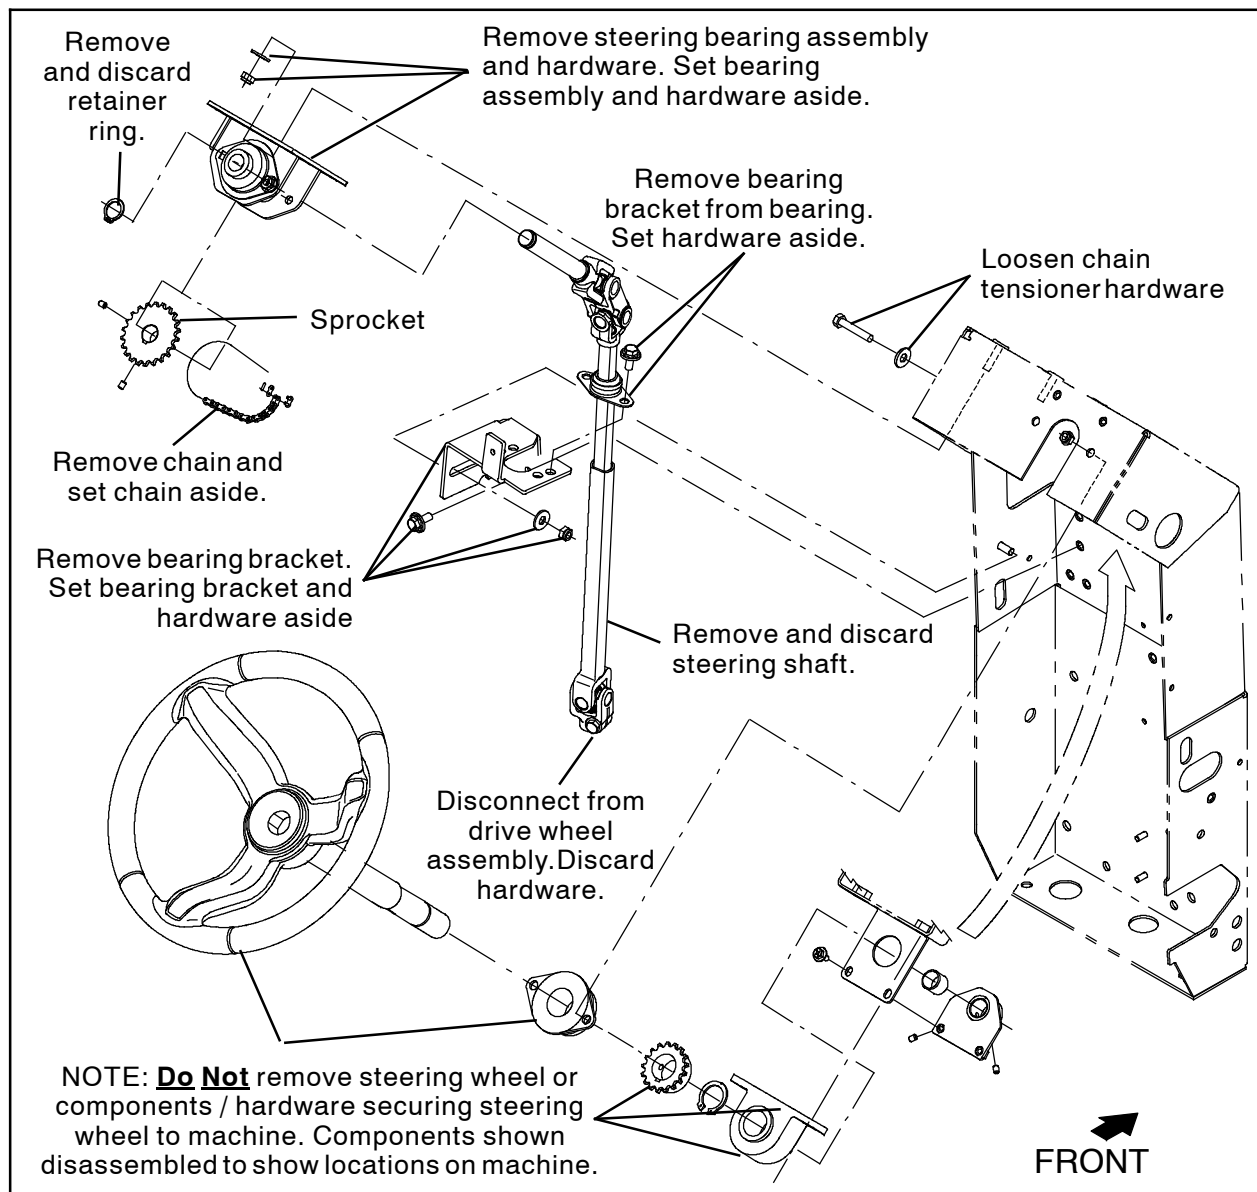

FIG. 2
2. Remove the chain from both steering sprockets. Set the chain aside. (Fig. 2)
3. Remove the hardware securing the steering bearing assembly to the machine. Set the hardware aside. (Fig. 2)
4. Remove the hardware securing the bearing bracket to the machine. Set the hardware aside. (Fig. 2)
5. Disconnect the steering shaft from the drive wheel assembly. Discard the hardware. (Fig. 2)
6. Remove the steering shaft / items attached to the steering shaft from the machine. (Fig. 2)
7. Remove the retainer ring securing the steering bearing assembly to the steering shaft and remove the steering assembly from the steering shaft. Set the steering bearing assembly aside. Discard the retainer ring. (Fig. 2)
8. Remove the hardware securing the bearing to the bearing bracket. Set the hardware aside. (Fig. 2)
9. Separate the two sections of the steering shaft and remove the bearing from the steering shaft. Set the bearing aside. Discard the steering shaft. (Fig. 2)
38. Tighten chain tensioner hardware as necessary. (Fig. 2)